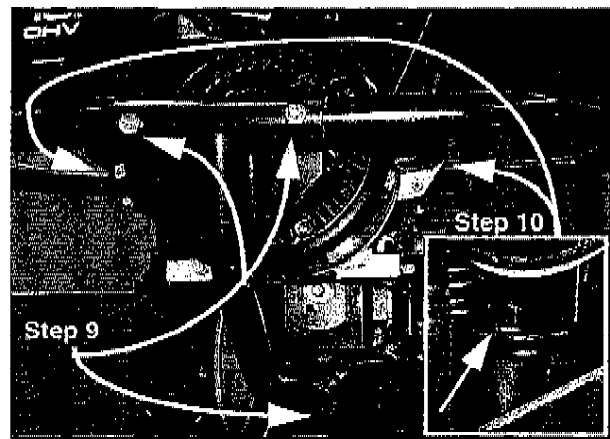

FIGURE 3
9. If tiller is equipped with a bumper, place the engine in the neutral position. Remove the two bolts that secure the lower bumper brace to the upper bumper loop and the one bolt to the transmission case. See Figure 3.
10. Remove the two bolts that secure the upper bumper loop to the top of the engine mounting bars. See Figure 3.